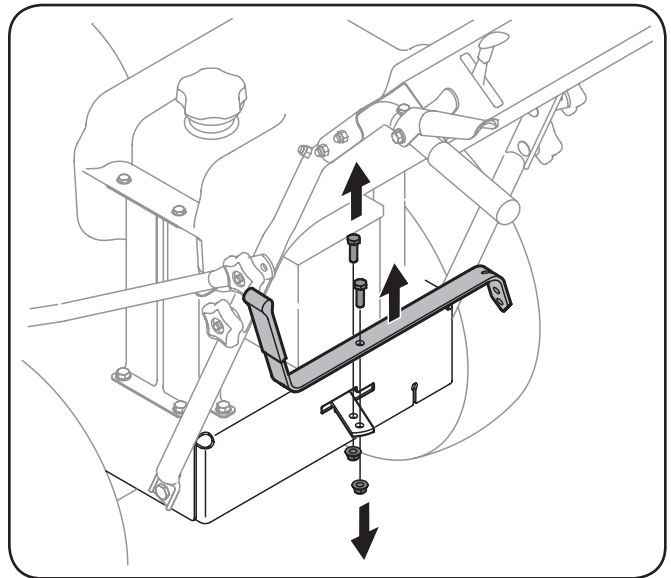

**Figure 3-4**
2. Pivot the upper handle into operating position. Be careful not to crimp cables. See Fig. 3-4.
4. Tighten the upper and lower star knobs and carriage screws to secure the upper handle to the lower handle, See Fig. 3-4.